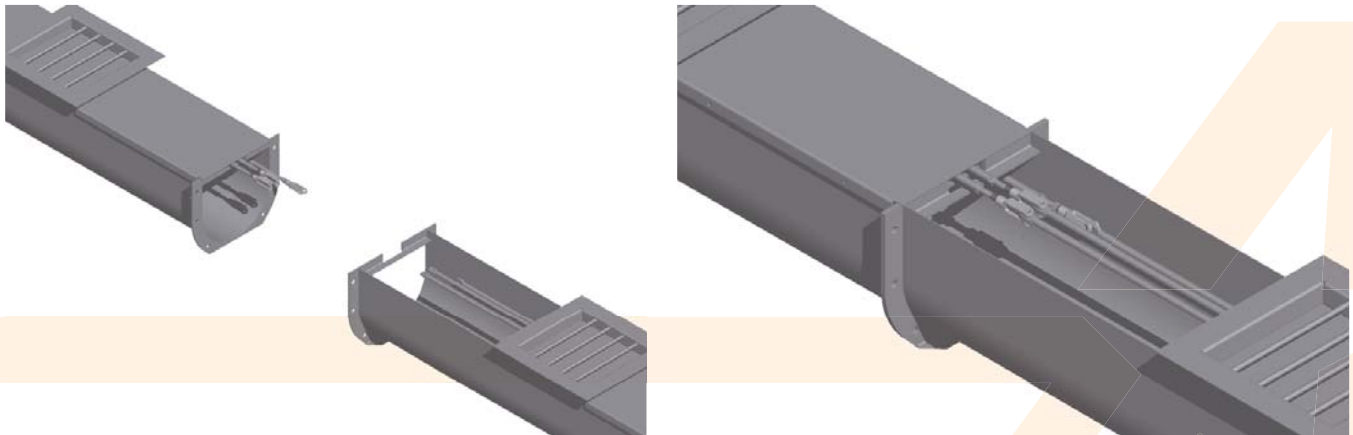

Figure 27
Align the clevises on the Center Sump section with the rods on the Extension section. Using one (1) 3/8" x 1 1/4" Bolt and one (1) 3/8" Nylon Locknut, per connection, secure the clevises to the rods. (see **Figure 27**)